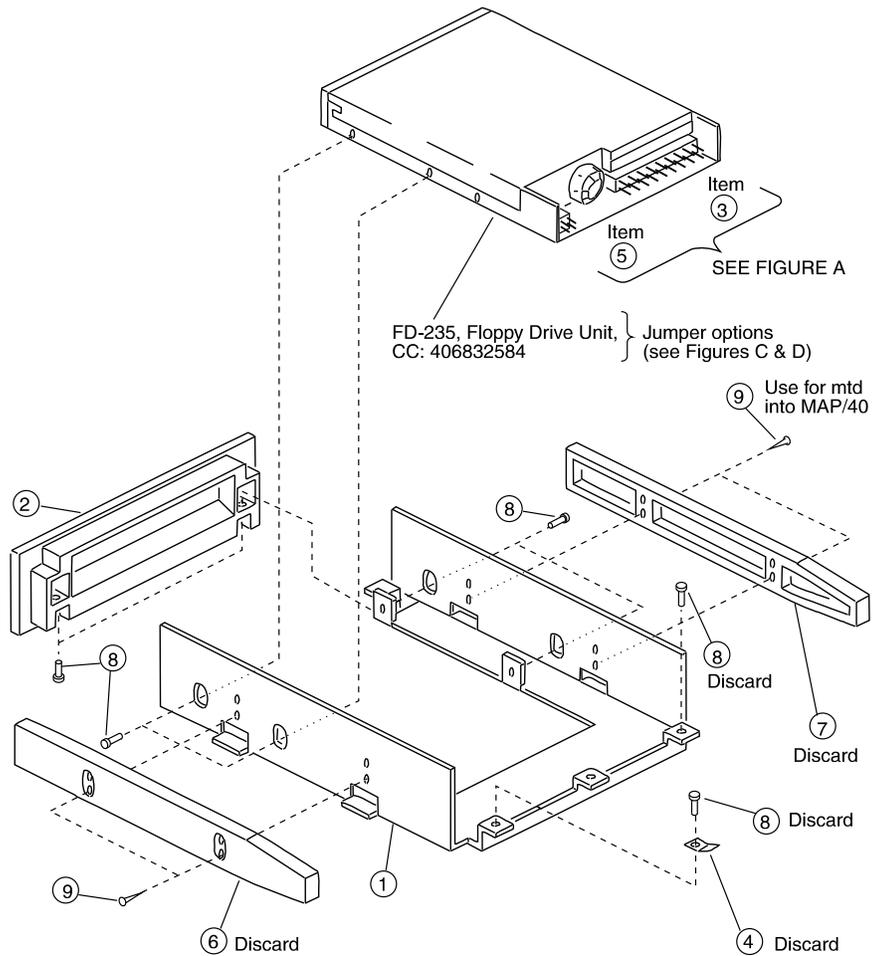

Figure B-9. Floppy Disk Drive Assembly
- Remove the four 3 millimeter Phillips head screws that secure the drive unit (FD-235) to the 5.25" FDD hardware mounting kit. These screws are identified as item(s) #8 in Figure B-9.
14. After the screws are removed, slide the drive unit back to clear the front bezel shown as Item 2 in Figure B-9. Upon removal, place the FDD upside-down with the printed circuit board facing up on an ESD-protected surface.